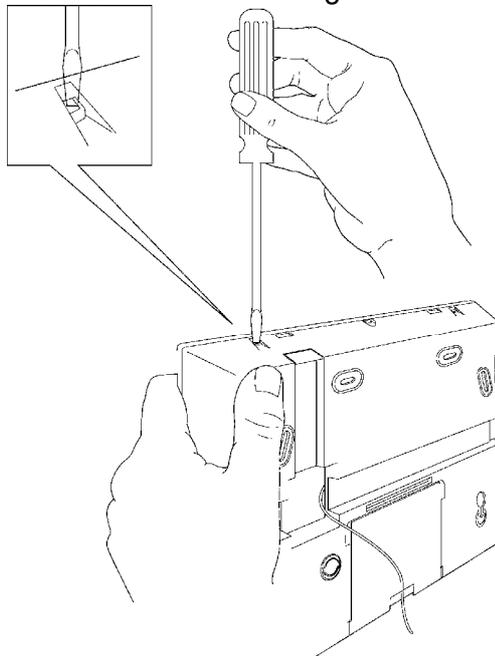

Figure 2-2: Opening the WisDom casing
- ❖ Press on the two locking tabs at the bottom of the unit (see figure 2-2).
- ❖ Gently hold the front panel from both sides, pull it up to a 45° angle and slide it to front to release the front panel from the two locking tabs at the top of the unit, see figure 2-2. (DO not open the front cover to a larger angle in order not to break the two top tabs at the top)